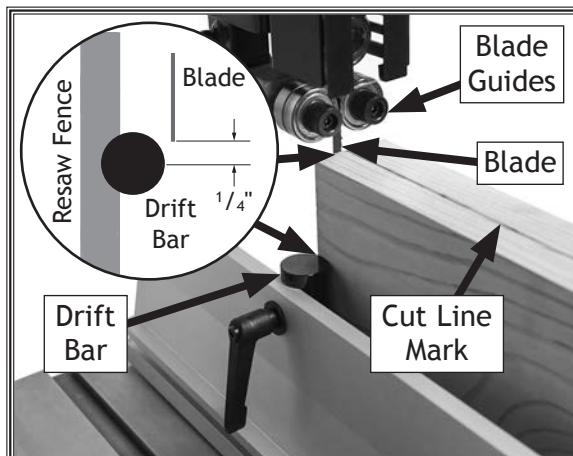

Figure 79. Workpiece positioned for resawing using drift bar.
1. Mark reference cut line along top of workpiece (see **Figure 79**).
2. Lower bandsaw blade guides as close to workpiece as possible (see **Figure 79**).
3. Adjust resaw fence so blade aligns with mark made in Step 1 and center of drift bar is set $\frac{1}{4}$ " forward of blade teeth (see **Figure 79**), and then lock fence in place.